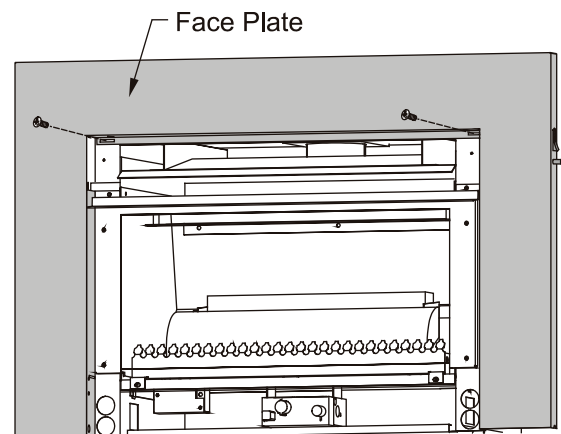

Figure 6b. Fixing the face plate in position.
- Attach the face plate by installing two screws into the top pilot holes as shown in figure 6b.